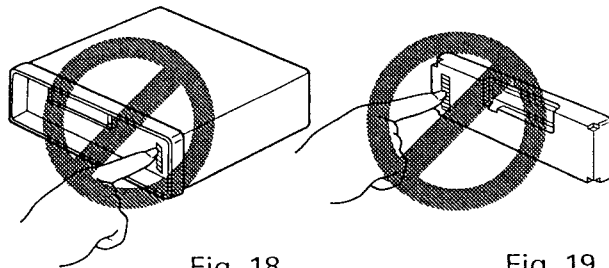

Fig. 18
- Do not touch the contacts on the front panel or on the unit body, since this may result in poor electrical contact. If dirt or other foreign substances get on the contacts, wipe them with a clean, dry cloth. (Fig. 18) (Fig. 19)